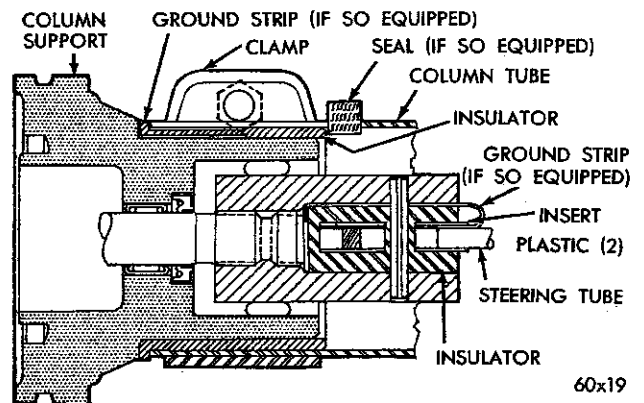

Fig. 26—Jacket Tube and Column Tube (Cross Section)
(25) Slide the jacket tube up and off the steering gear through the driver's compartment. Remove the jacket tube upper spring and retainer. Remove the rubber insulator boot and horn ground strap.
(26) Remove the steering tube coupling pin, two plastic inserts, horn ground strap (Fig. 26), rubber insulator and the upper steering tube.
(27) Remove the gear housing to frame bolts, washers and alignment wedge. Remove the nuts and washers attaching the master cylinder to the brake booster and slide the master cylinder off the studs and towards the fender shield. Slide the steering gear towards the rear of the vehicle and at the same time, raise the lower end of the gear to remove the gear at the engine compartment.